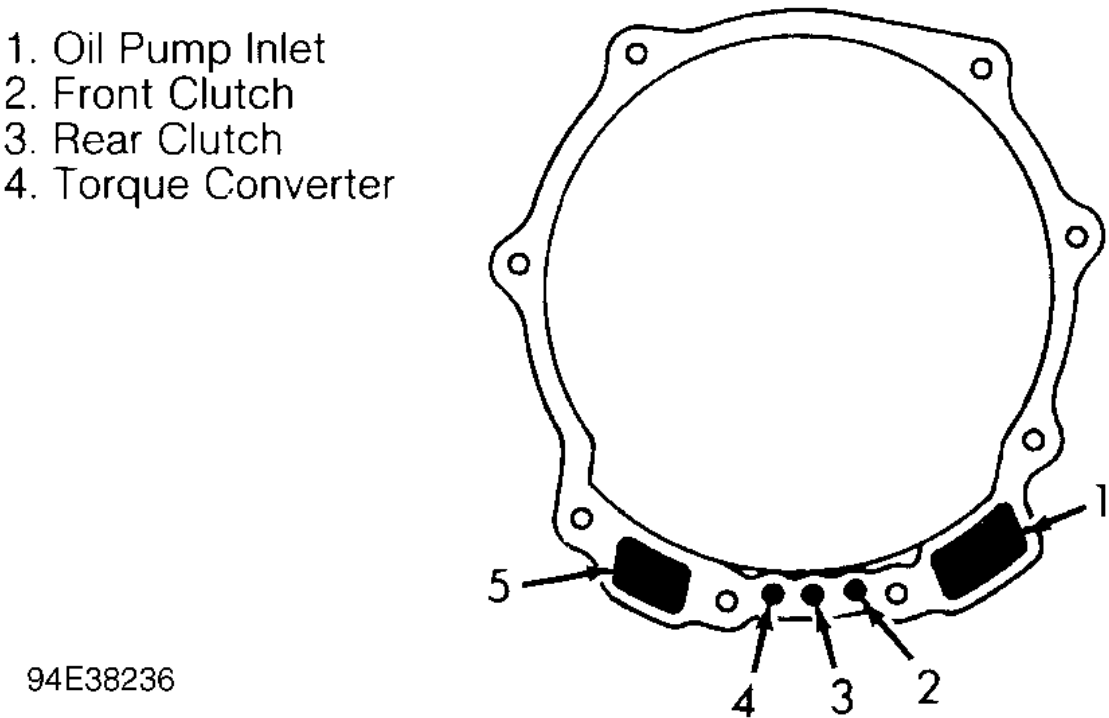

Fig. 16: Identifying Oil Pump Oil Passages
3. Place front clutch assembly over oil pump and apply air pressure (57 psi maximum) to front clutch oil passage in oil pump to check for proper front clutch operation. See Fig. 16 .
2. Place front clutch on oil pump and rear clutch hub on top of front clutch. Apply air pressure to rear clutch oil passage to remove piston. See Fig. 16 . Remove and discard piston seal rings.
3. Check rear clutch operation by placing forward clutch on oil pump and then rear clutch. Apply compressed air (70 psi maximum) to rear clutch oil passage and check operation. See Fig. 16 .